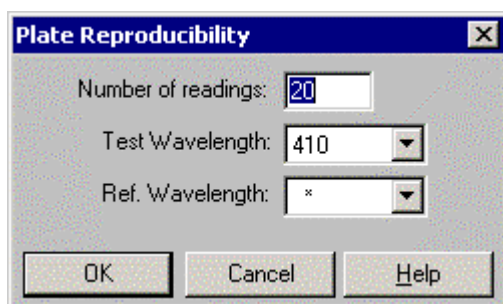

Figure 4-7 The Plate Reproducibility Dialog Box
**Plate Reproducibility** presents the *Plate Reproducibility* dialog box (Figure 4-7), which allows you to run a plate several times and check the reproducibility of results for each well.